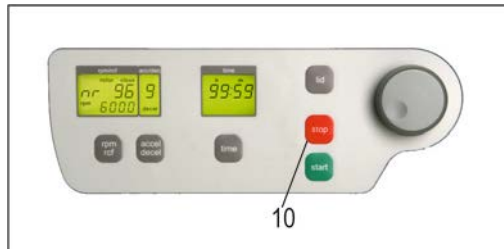

Figure 17
With the "stop" key (10), (see Figure 17), the run can be interrupted at any time. After pressing the key, the centrifuge decelerates, with the respective pre-selected intensity, down to a standstill.